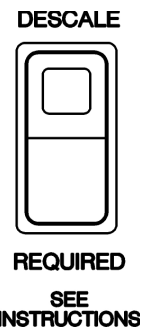

Figure 3-3 Descaling Required Light
When the programmed number of hours have elapsed, the “DESCALE REQUIRED” light will turn on, indicating that descaling of the steam generator must be done (See Figure 3-3). More information on this feature and the descaling procedure can be found in the Maintenance section of this manual, Chapter 6, Part A (4), Monthly/Weekly Maintenance.